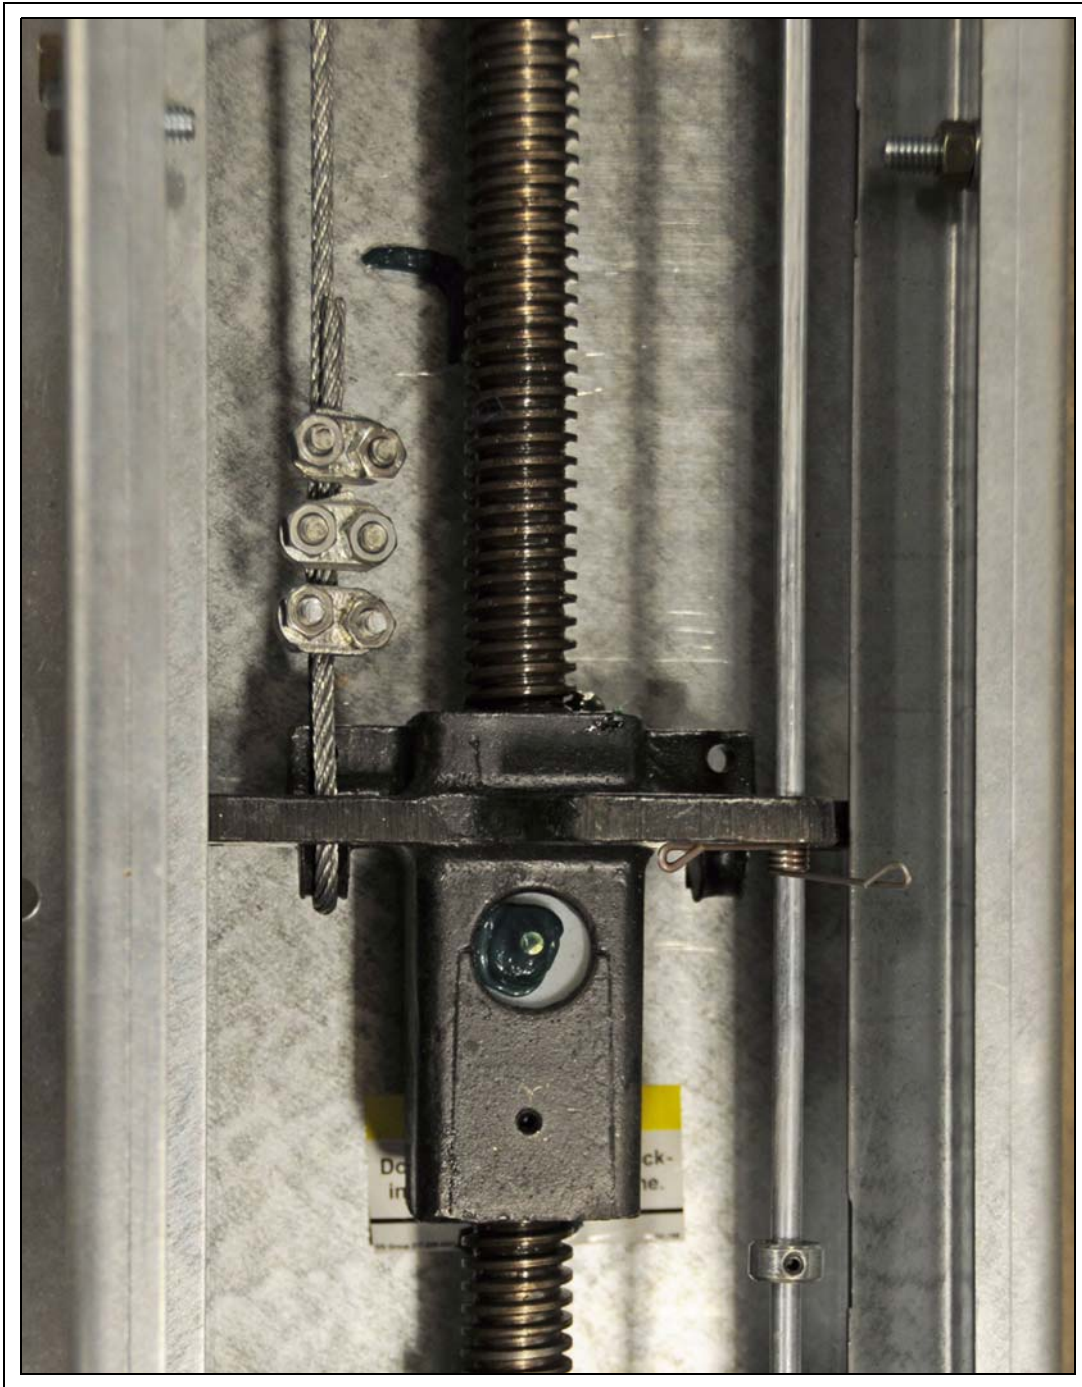

Figure 3D
9. While the drive block is near the closed position (bottom of the drive screw), loop the incoming cable through the two (2) holes in the drive block as shown in Figure 3D and fasten the cable to itself using three (3) 3/16" cable clamps per cable.